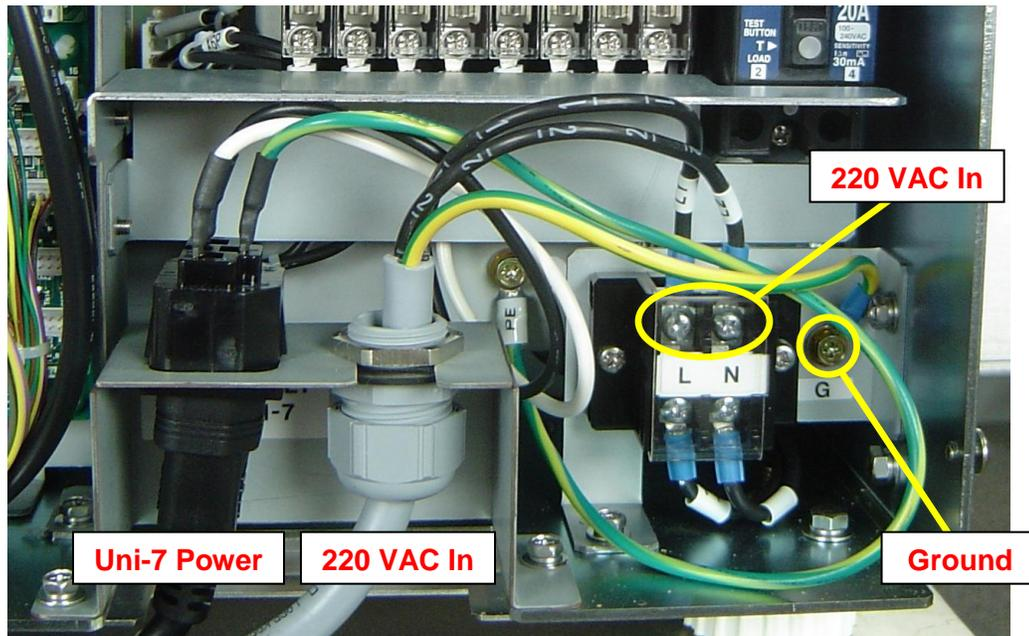

Figure 3.1. WM-Nano Power Connections
The WM-Nano requires 220 VAC single-phase power. Using 3/12 power cable connect the 220 VAC input power as listed below. See Figure 3.1.
- i. Connect the power cord at the socket under the WM-Nano wrapper next to the 220 VAC power input. See Figure 3.1.